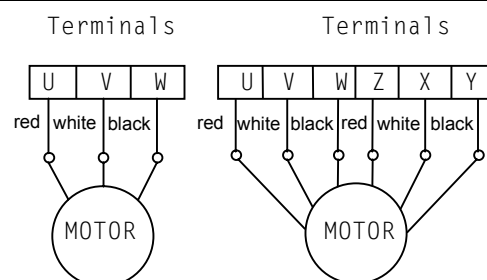

Fig.4
- 2) Wiring should be performed as indicated for the appropriate start system as shown in Fig 4